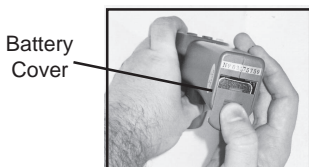

Figure 3
1. Slide the Battery cover door on the handle to expose the Battery compartment. See Figure 3.